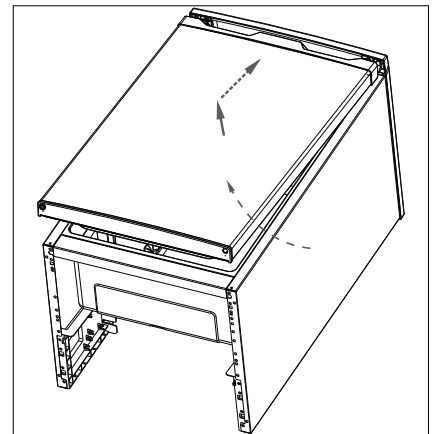

Fig. 11
- ▶ Refit the freezer door on the freezer compartment by sliding the freezer door upwards at a slight angle from below (Fig. 11). Ensure that the hinge pin of the upper hinge is seated in the hinge bushing on the top of the freezer door and that the seal is properly flush with the edge of the housing.